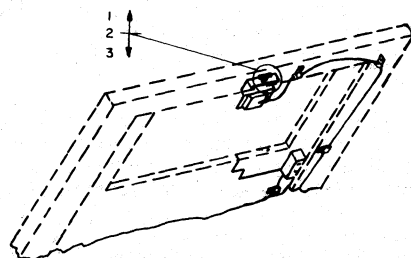

Fig. 5
2.05 There is one interlock switch on this cabinet. The interlock switch has a three-position activator (Fig. 5). Check for continuity at connector terminals 6 to 7 when the activator is lifted to its 1 position (maintenance) and held down (audible click) in its 3 position. No continuity should be observed in its 2 position (Fig. 8).